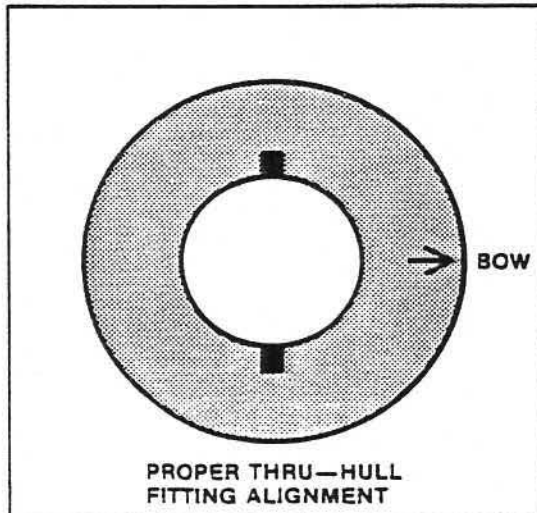

Figure 3.4
5. Install the thru-hull fitting using the bedding compound. Make sure the arrow stamped on the outer face of the fitting points towards the bow of the boat, parallel to the flow of water over the hull (see Figure 3.4).